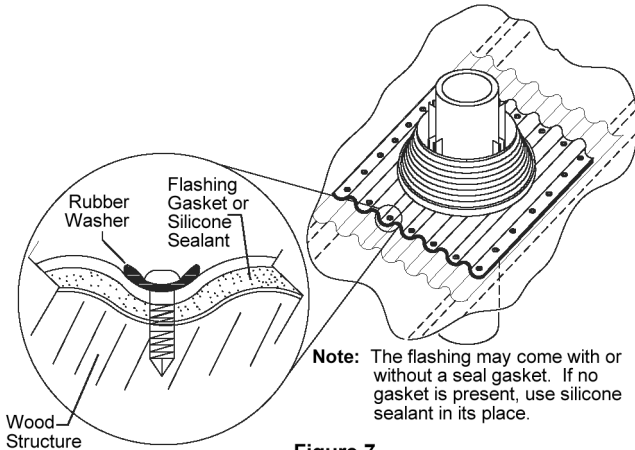

Figure 7
- Install the rubber boot flashing down over the sleeve and secure to the roof, using #9 x 1 $\frac{1}{2}$ " Truegrip wood screws (Item 5). See Figure 7 and Note 3.